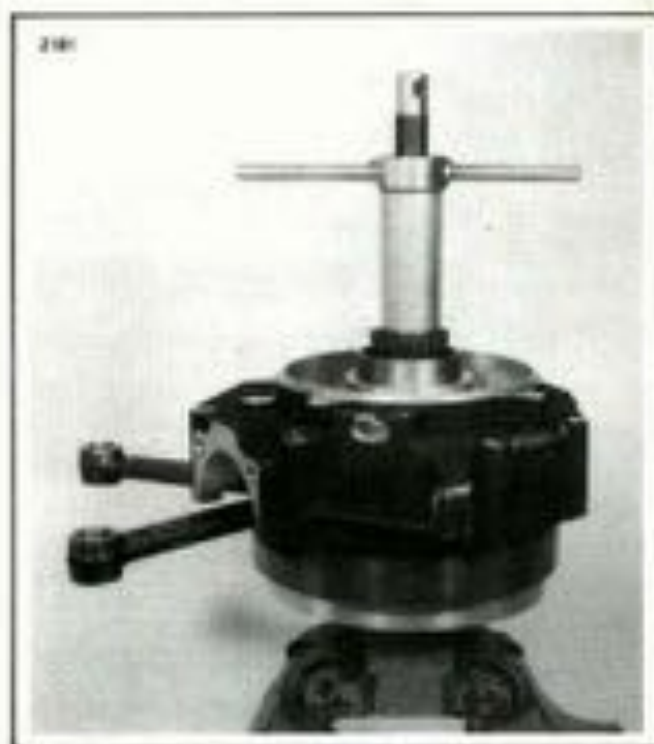

Figure 3-59. Pressing Flywheel into Crankcase
5. Slip crankcase half, with outer race parts installed, over shaft. Slip bearing over tool screw, small end down toward inner spacer. Position tool sleeve pressing bearings tightly together as shown in Figure 3-59. Bearings must be tight against the bearing inner spacer to provide correct bearing clearance.
6. Remove assembly from flywheel fixture and install bearing washer (5), bearings (4) and bearing washer (3) on pinion shaft. Install new spiral lock (2) on groove in pinion shaft. Slip right case half over bearing and against left case half after applying a coat of Harley-Davidson CRANKCASE SEALANT, 99650-81 to parting surfaces.